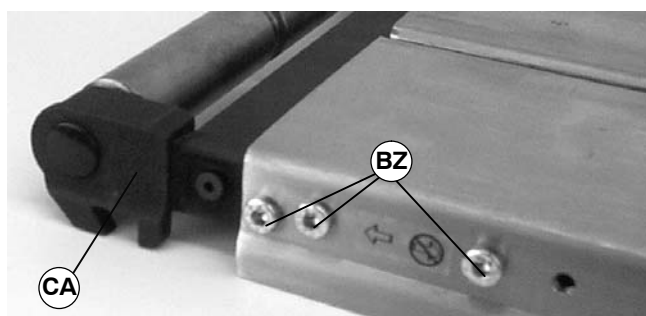

Figure 46
1. Remove three (3) screws (BZ of Figure 46) on both sides of conveyor.